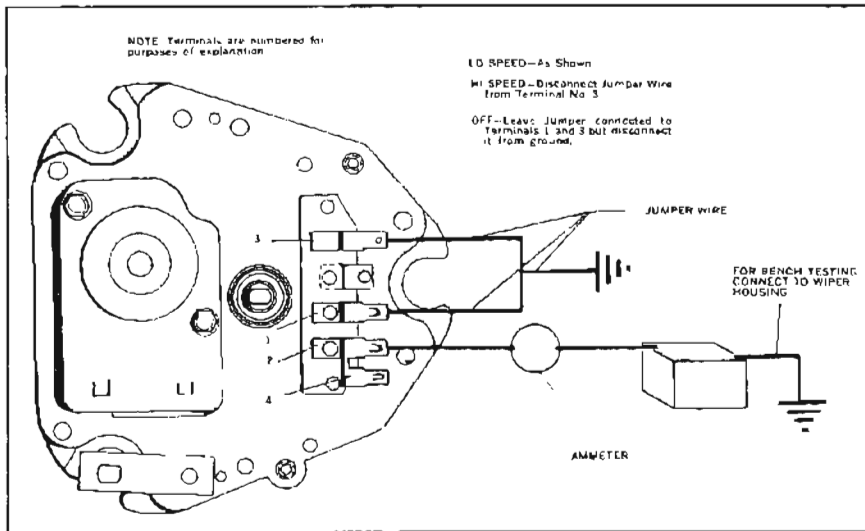

Figure 10-88—Connections to Operate Wipers
Figure 10-88 illustrates the method of connecting leads to the wiper for either bench operation or to run wiper independently of dash switch and car wiring when installed in car.
(b) With ignition switch on, check for 12 volts at harness terminal that connects to number (2) terminal (Figure 10-88).
(c) To determine if dash switch or car wiring are at fault, disconnect harness from wiper motor and try operating wiper as shown in Figure 10-88. If wiper fails to operate, remove body parts as required, disconnect transmission from wiper crank arm and recheck wiper operation. If wiper still fails to perform correctly, remove wiper from car and check wiper according to procedure under Trouble-Shooting Wiper Out-of-Car.
(b) Disconnect wiring harness from wiper motor and try operating wiper independently of dash switch as shown in Figure 10-88.
It is assumed that in many cases there is no information available to the repairman about the original wiper complaint. It is necessary, therefore, that wiper operation be checked according to the instructions shown in Figure 10-88. **IMPORTANT - Be sure and use an ammeter capable of reading at least 30 amperes in the feed wire circuit.**